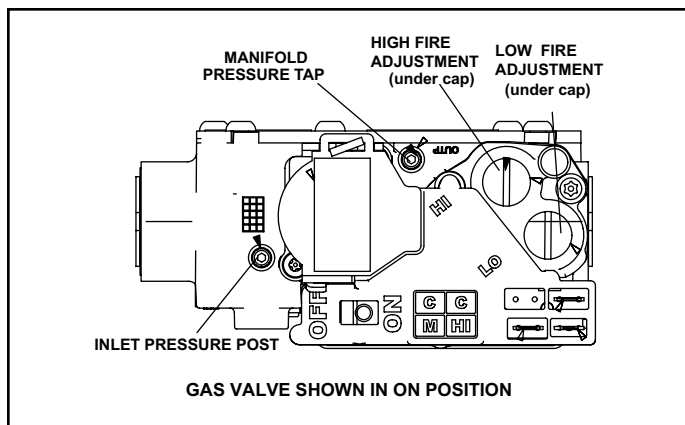

Figure 26. White Rodgers Gas Valve
See Figure 26
6. Move switch on gas valve to OFF. Do not force. See Figure 26.
8. Move switch on gas valve to ON. Do not force. See Figure 26.
An inlet post located on the gas valve provides access to the supply pressure. See Figure 26. Back out the 3/32" hex screw one turn, connect a piece of 5/16" tubing and connect to a manometer to measure supply pressure. See Table 15 for supply line pressure.
A manifold pressure tap located on the gas valve provides access to the manifold pressure. See Figure 26. Back out the 3/32" hex screw one turn, connect a piece of 5/16" tubing and connect to a manometer to measure manifold pressure.
1. Connect test gauge to manifold pressure tap (Figure 26) gas valve.
4. If necessary, make adjustments. Figure 26 shows location of high fire and low fire adjustment screw.